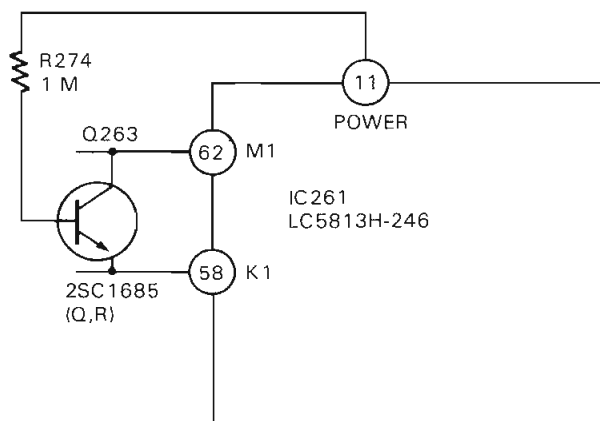

Fig. 4
- (1) Short between Test Point 265 and the chassis base for 1-2 seconds to discharge the backup capacitor (C265) and completely erase the memory contents. After that, turn the switch on.
- (2) Add the circuit shown in Fig. 4.